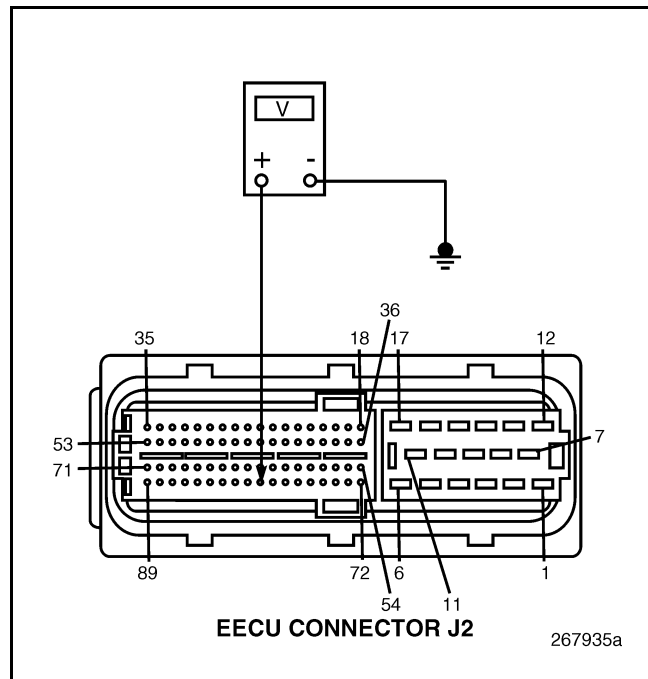

Figure 213
5. Measure the voltage between EECU harness connector J2 pin 80 and a good ground (see Figure 213).